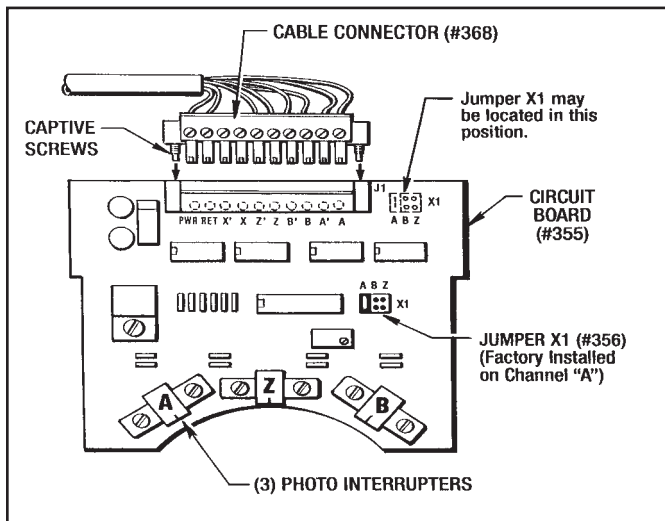

Figure 7.1 - Circuit Board Connector
1. Take out the (4) Screws (#225) and remove the Top Cover (#372) and the upper Gasket (#19) from the Upper Enclosure (#18). This gasket is reusable.
3. Loosen the (2) captive screws in the Cable Connector (#368) and unplug it from the Circuit Board (#355). (See Figure 7.1)
5. Remove the (2) Cap Screws (#77) and take the Upper Enclosure (#18) and lower Gasket (#19) off of the Disc Housing (#17). This gasket is also reusable.